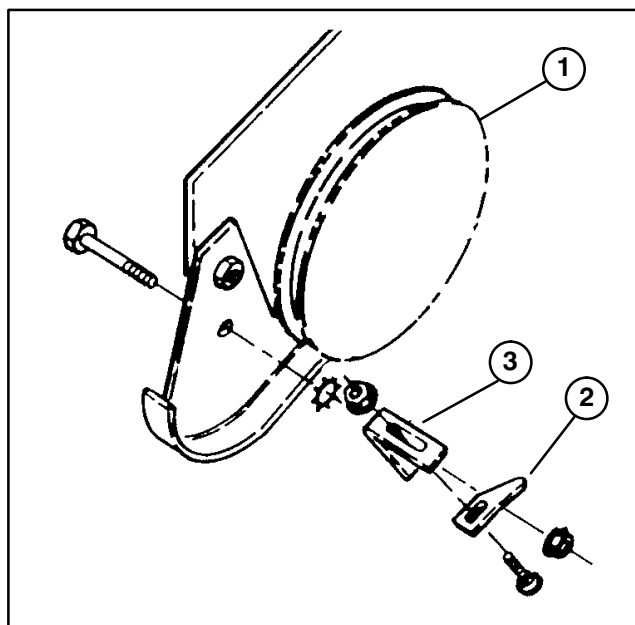

Figure 4
A. Loosely mount a pulley debris cleaner bracket to the underside of a pulley debris cleaner support with a carriage bolt and flange locknut as shown in figure 4. Position bracket so bend in bracket faces downward.
C. Loosely secure pulley debris cleaner support onto skid mounting capscrew with external tooth lockwasher and locknut as shown in figure 4.